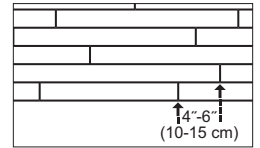

Figure 4
- Be attentive to staggering the ends of boards at least 4'-6" (10-15 cm), when possible, in adjacent rows (Figure 4). This will help ensure a more favorable overall appearance of the floor.